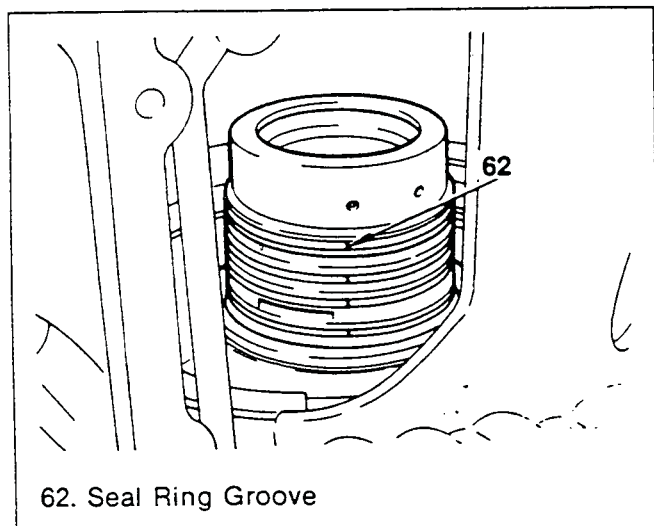

Figure 253. Forward Clutch Seal Ring Installation
Forward Clutch Assembly (Figures 253 and 254)
1. Remove the tape, etc which was used to prevent the forward clutch assembly from spreading from the low one-way clutch seal ring, and push the seal ring into the groove using Vaseline (figure 253).